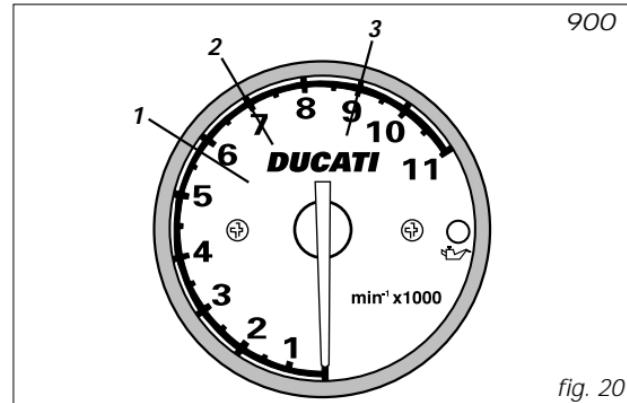
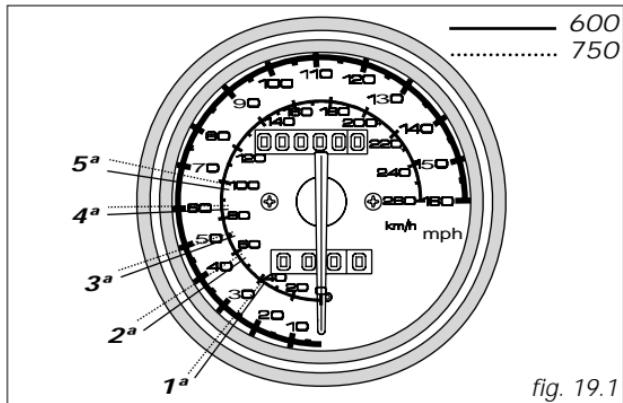

fig. 20
fig. 19.1
During the first 1000 km, keep the revolution meter under control. The indicator must not exceed: speed as indicated for the each gear (600/750) (fig. 19.1); 5500-6000 rpm (900) (fig. 20).
7000 rpm (900) (fig. 20).
900 models (fig. 20): 9000 rpm.